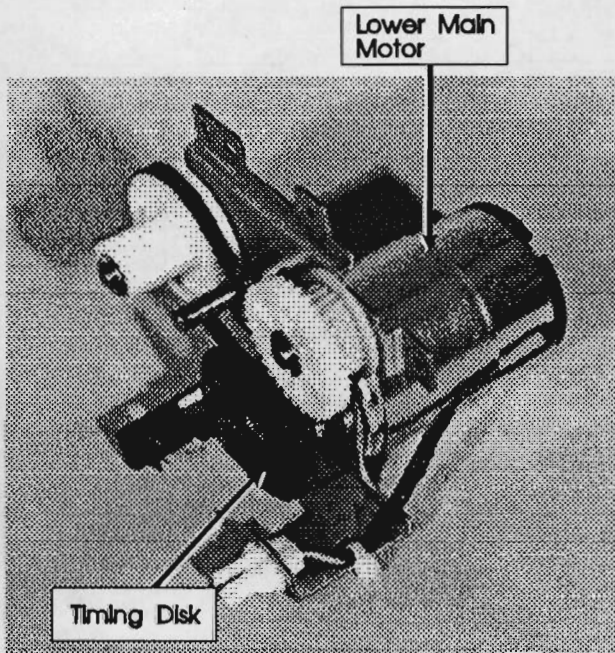

Figure 6-44. Lower Main Motor
3. Disconnect the (2) solenoid connectors.
4. Remove the (3) screws that hold the lower motor assembly mounting plate.
6. Remove the lower main motor assembly and mounting plate (see Figure 6-44).